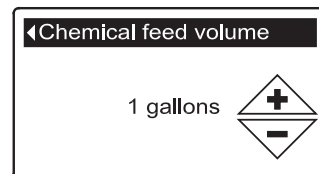

FIG. 80
7. Press the SELECT (O) button to display the Chemical feed volume or Chemical feed timer menu (See Figures 80 & 81).